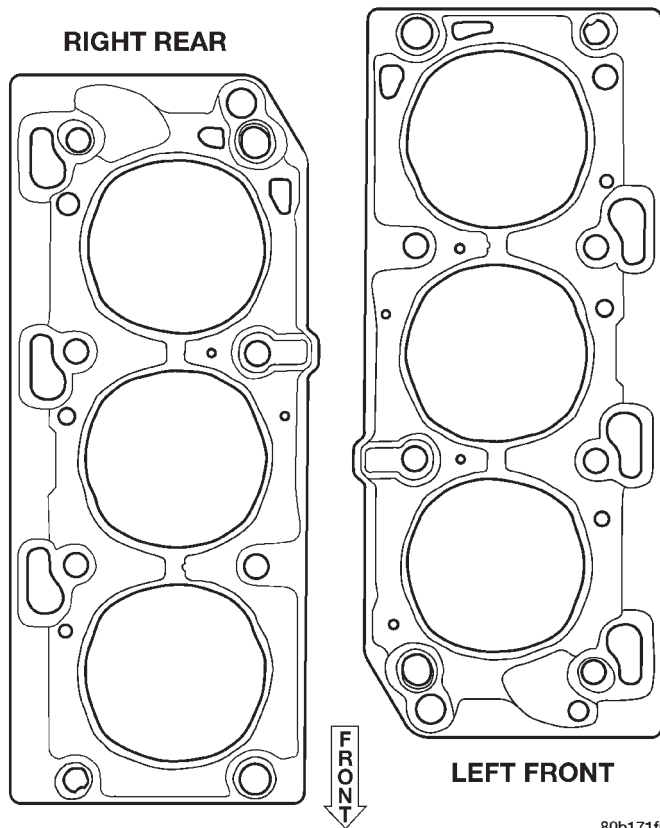
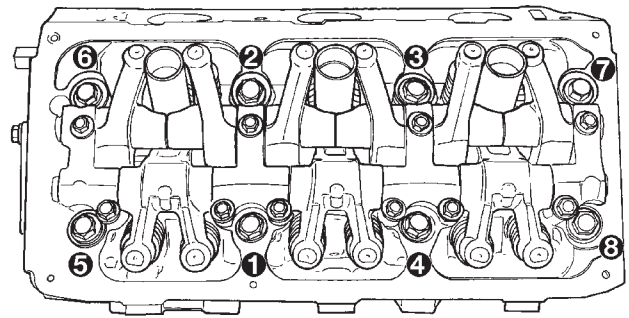

Fig. 42 Cylinder Head Gasket Identification
Fig. 43 Cylinder Head Bolt Tightening Sequence
(1) Clean sealing surfaces of cylinder head and block.
(2) Install head gasket over locating dowels. Ensure the gasket is installed on the correct side (Fig. 42).
(3) Install cylinder head over dowels.
(4) Before installing the bolts, lubricate the threads with engine oil.
(5) Tighten the cylinder head bolts in the sequence shown in (Fig. 43). Using the 4 step torque-turn method, tighten according to the following values:
(6) Bolt torque after 90° turn should be over 122 N·m (90 ft. lbs.) in the tightening direction. If not, replace the bolt.